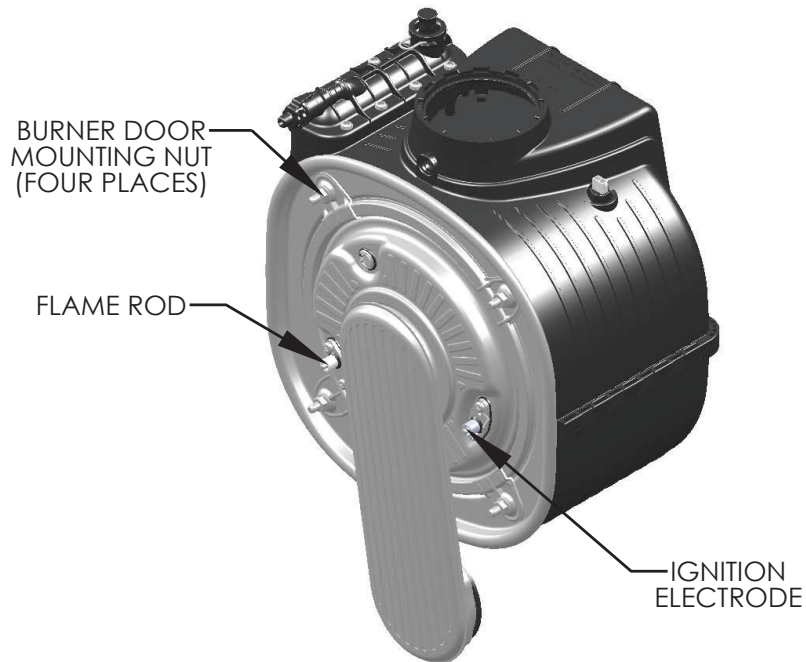

FIGURE 13.1: FLAME IONIZATION ELECTRODE AND IGNITION ELECTRODE LOCATION
- j. **Unplug the ignition, ground, and flame rod wires** from the ignition electrode and the flame rod (Figure 13.1).
- k. **Use a 10mm wrench to remove the four nuts** securing the fire door to the heat exchanger (Figure 13.1). Carefully remove the door/blower/gas valve assembly from the heat exchanger, being careful not to damage the refractory insulation on the inside of the door (see Refractory Warning on next page) or the electrodes.